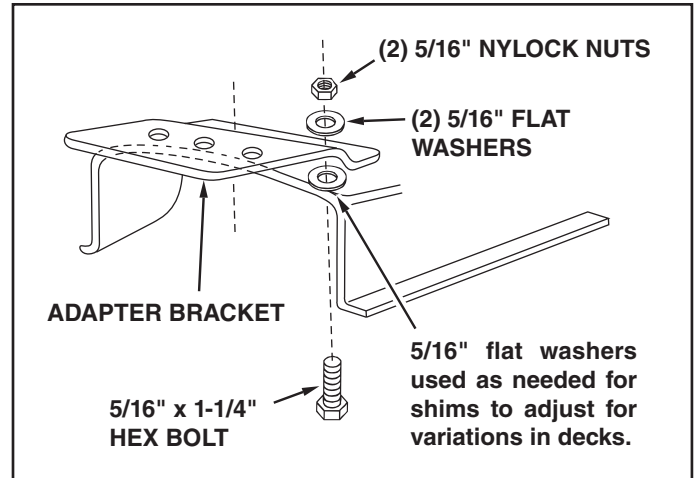

FIGURE 14
- Assemble the adapter bracket to the deck using two 5/16" x 1-1/4" hex bolts, 5/16" flat washers and 5/16" nylock nuts. See figure 14.
NOTE: It may be necessary to use extra 5/16" flat washers to shim under the bracket next to the deck surface. Ten extra washers have been furnished as shims. See figure 14.